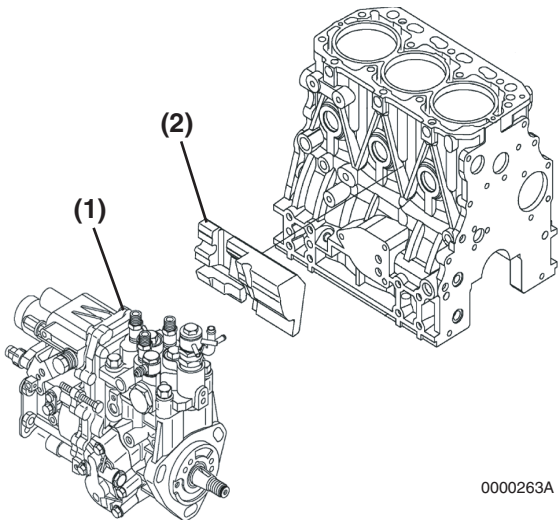

Figure 7-30
12. If equipped, verify the fuel injection pump insulator (**Figure 7-30, (2)**) is not damaged. Reinstall the insulator and intake manifold if previously removed.